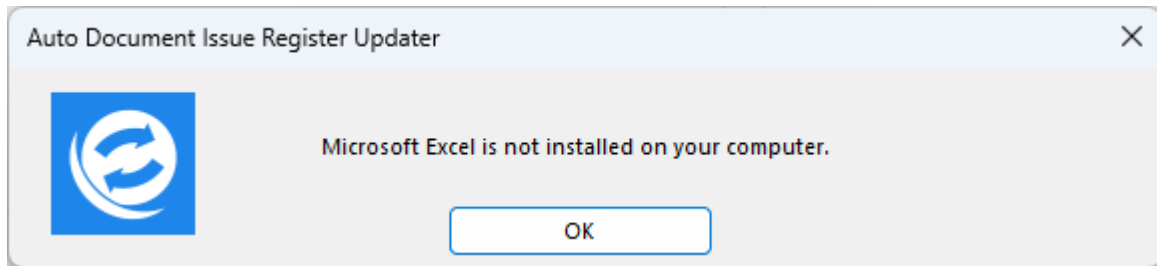

Figure 25
2. Restoring the User_Guide.pdf will prevent the above dialog as shown in figure 25 from being displayed again.